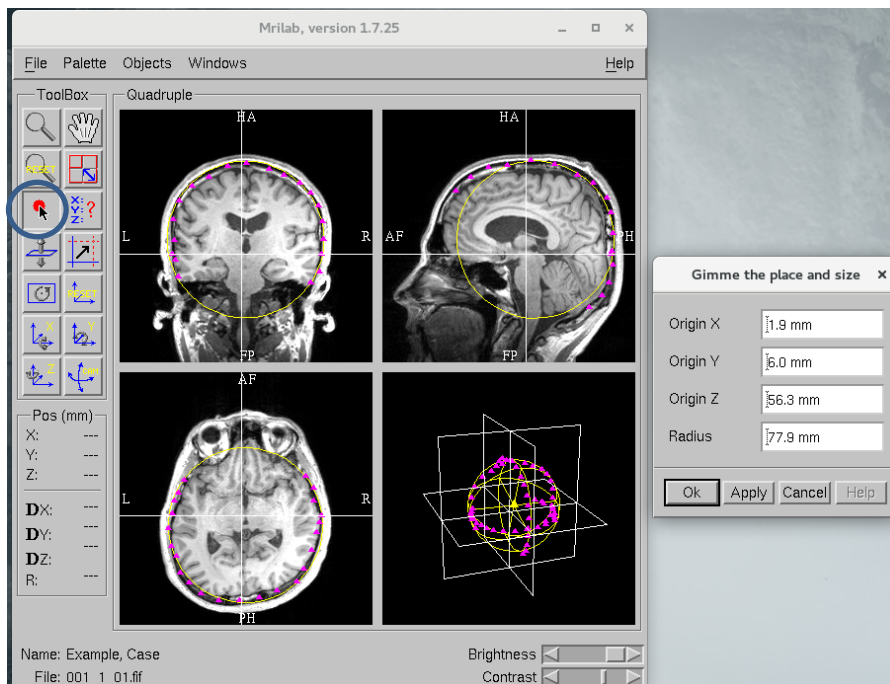

Figure 13: Fit a sphere on the point set. The **Point** tool is circled.
- Adjust the views and cursor so that the cursor is in the center of the head, see Figure 13.
- It is recommended to obtain approximately 15-20 points per orthogonal plane (sagittal, axial and coronal; Figure 13).
- Locate and observe the center of the sphere, marked by a yellow triangle (Figure 13). Confirm the sphere is correctly placed over the brain, following the curvature of the skull.